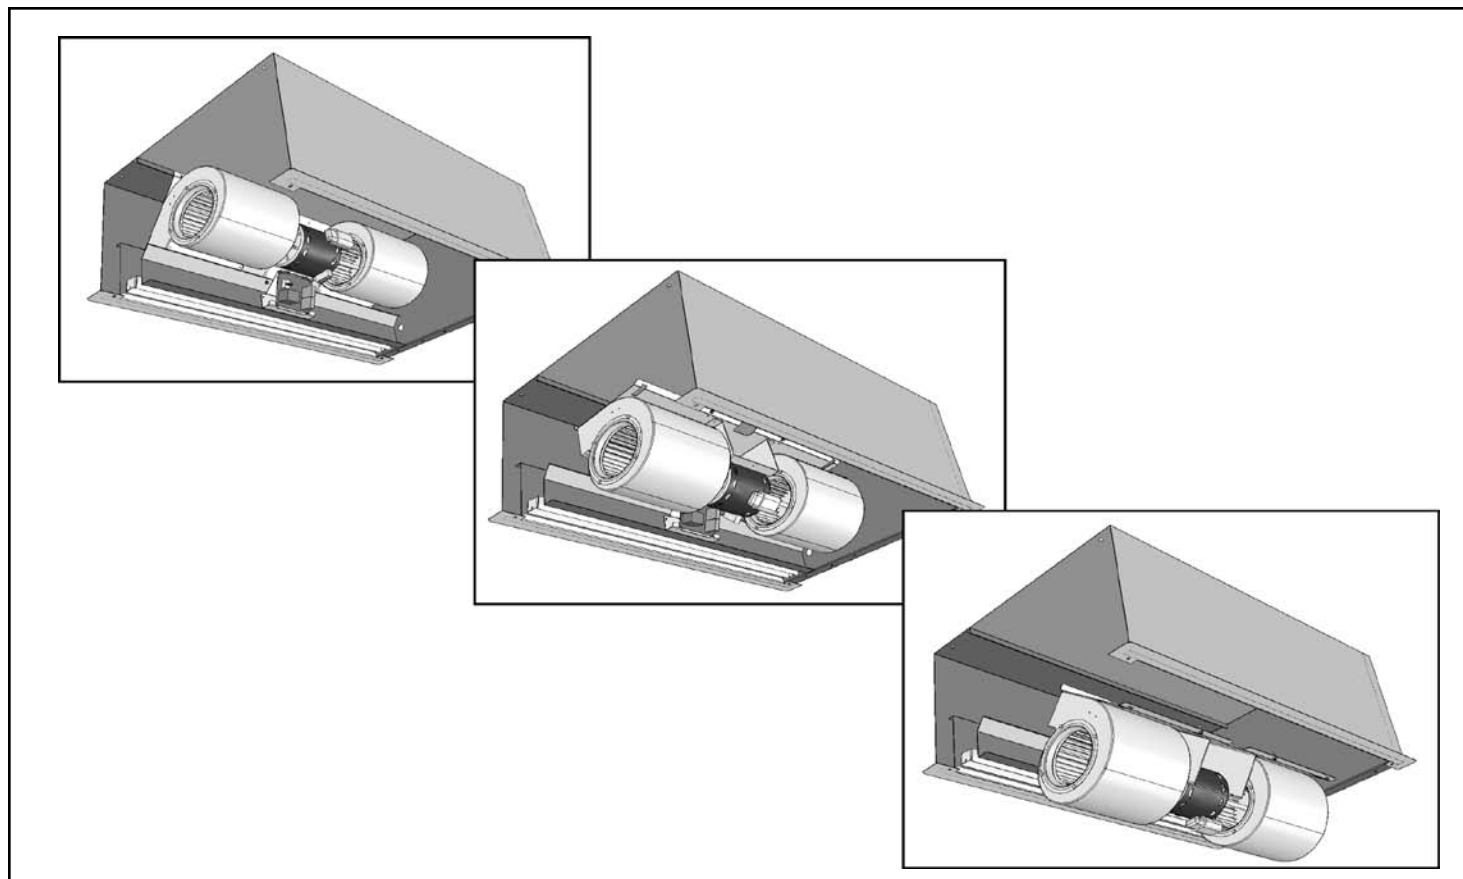

Figure 9
7. Wearing protective gloves, hold the module by the motor, and rotate the module top forward and drop it down through the bottom of the unit. **See Figure 9.**